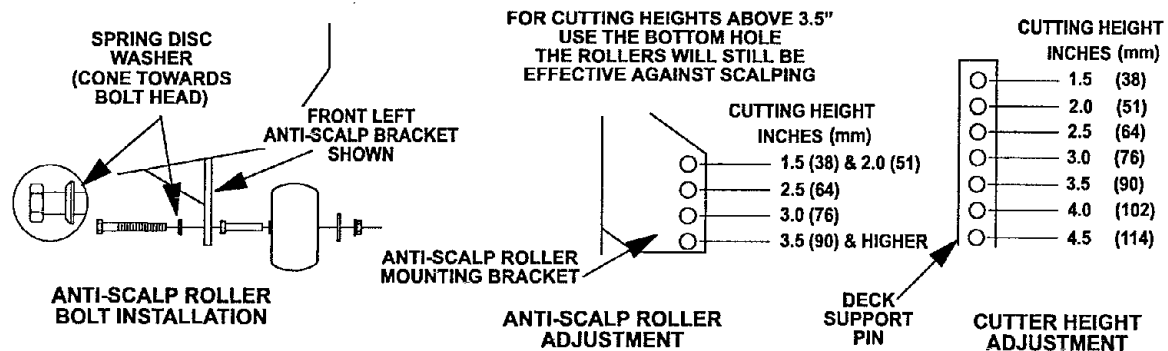

FIG 7
- a) Install hairpin clips in the holes shown on sketch below for the desired cutting height (See Figure 7).
- b) Adjust anti-scalp rollers for Normal Operating Conditions. Place rollers in one of the positions shown in Fig. 7. **For Maximum Deck Flotation**, place rollers one hole position lower. Rollers should maintain 1/4 in. (6.4 mm) clearance to ground. **Do Not** adjust rollers to support the deck. Be sure roller bolts and nuts are installed with the spring disc washer between head of the bolt and mounting bracket. **Torque to 40-45 ft-lbs, or loss of roller may result.**
- c) When operating in extremely rough conditions it may be necessary to position the anti-scalp rollers one or two holes higher than described in "b" to prevent damage to the rollers and/or bolt failure (See Figure 7).